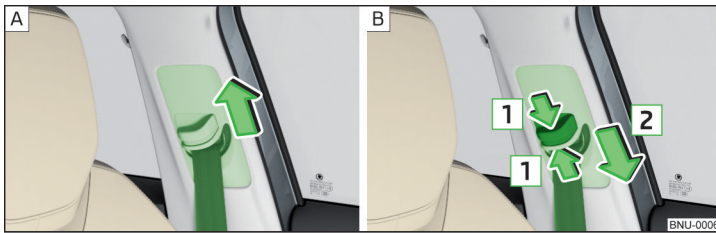

Fig. 18 Seat belt height adjusters for front seats
- Push the seat belt guide loop **upwards** in the direction of arrow » Fig. 18 - [A].
- **or**: push together the mechanism in the direction of arrows **1** and push the return pulley **downwards** in the direction of arrow **2** » Fig. 18 - [B].